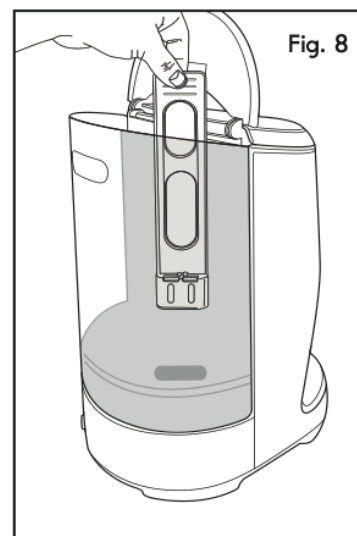

Fig. 8
2. Open the cover of the water tank, and pull out the water filter carriage (s. Fig. 8).